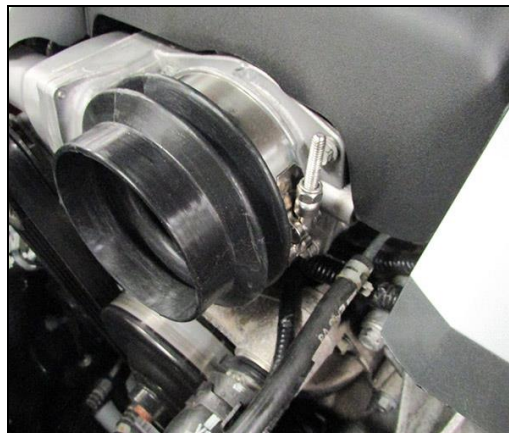

Figure 5
11. Install the silicone coupling and (x1) t-bolt clamp to the throttle body (**Figure 5**). Tighten the t-bolt clamp.